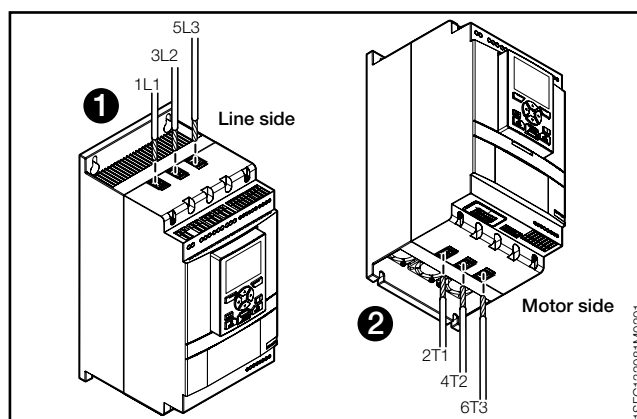
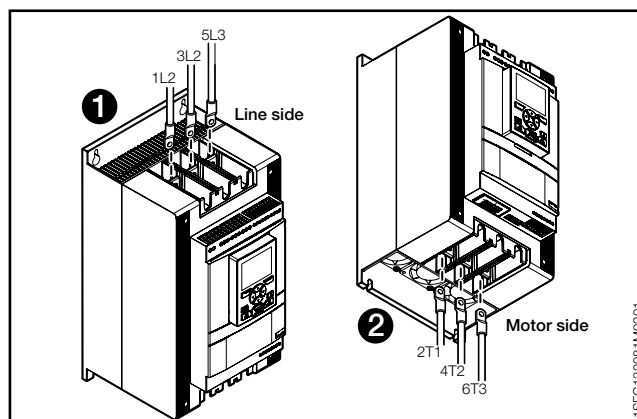

Figure 2.2
Figure 2.3
2. Connect the main circuit: terminals 1L1 - 3L2 - 5L3 to the line side **1**, and terminals 2T1 - 4T2 - 6T3 to the motor side **2**, see **Figure 2.2**. Use wire connection for PSTX30...105, see **Figure 2.2** and terminal connection for PSTX142...570, see **Figure 2.3**.
3. Connect the line side to terminals 1L1, 3L2, 5L3. see **1** and **Figure 2.2**. Connect the motor to terminals 2T1, 4T2, 6T3 on the motor side, see **2** **Figure 2.2** and **Figure 2.3**.